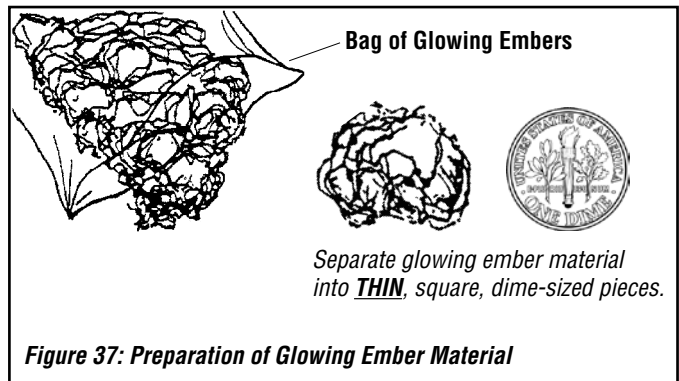

Figure 37: Preparation of Glowing Ember Material
- a) Separate some of the glowing ember material into pieces **about the size and thickness of a dime** (see **Figure 37**). Keep the pieces fluffed up, not matted.